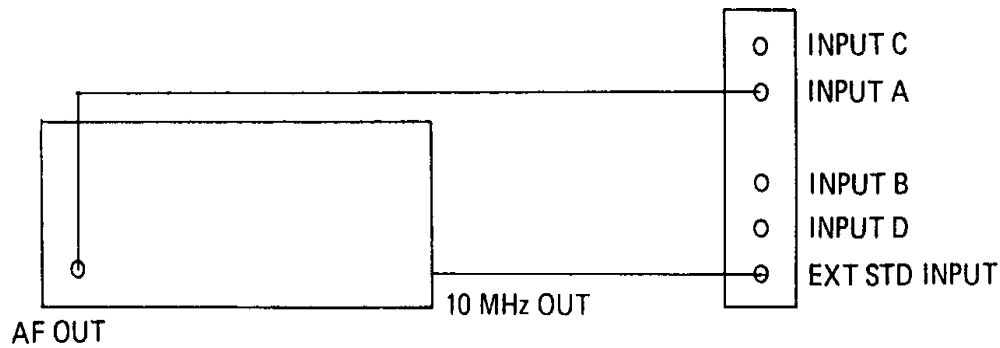

Figure 4-1, Input A Low Frequency Sensitivity Test Configuration
4.1.6.1 Connect the Function Generator to the 2251A as shown in **Figure 4-1**.